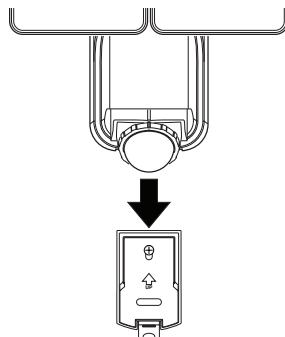

Figure 5
5. Slide the rear of the light fixture down onto the mounting plate until it snaps into place (see Figure 5).